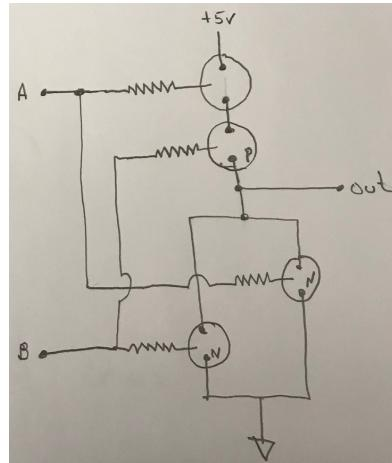

Figure 7: A CMOS logic gate circuit to be identified.
3. Construct the circuit shown in Figure 7. **Have the instructor inspect your circuit when it is complete and before turning on the Proto-Board power.**
4. Design an experiment and collect data to determine what logic gate is implemented by the circuit in Figure 7. Describe your experiment in a few complete sentences. Provide the data you collected in a well-organized table in the space below. Use the data you have collected to identify the logic gate and then give its schematic symbol.